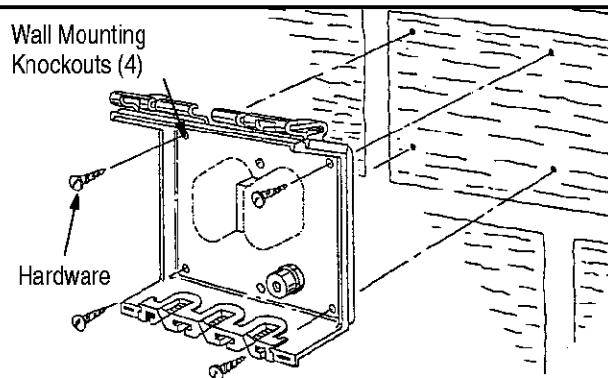

Figure 5
1. Place terminal "face down" on a solid flat surface. Using a small punch or screwdriver, remove wall mounting knockouts from outside terminal. See Figure 5.
2. Align terminal to wall and secure with approved hardware. See Figure 5.